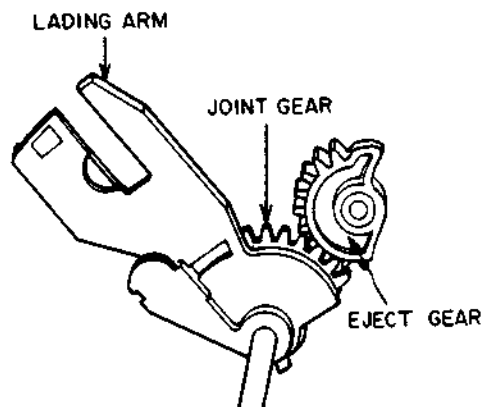

Fig. 4-18
- 1) While covering the **SENSOR (S)** with your fingers, connect the AC power plug to the AC socket. The **FRONT LOADING SLIDER** will reach the "EJECT" position. Then disconnect the AC power plug from the AC socket before you release your fingers from the **SENSOR (S)**.
- 2) Install the **LOADING ARM BLK** in the reverse order of 4-1-2 (Removal of the **LOADING ARM BLK**). Set the position between both the **EJECT GEAR** and the **JOINT GEAR** as shown in Fig.4-18.